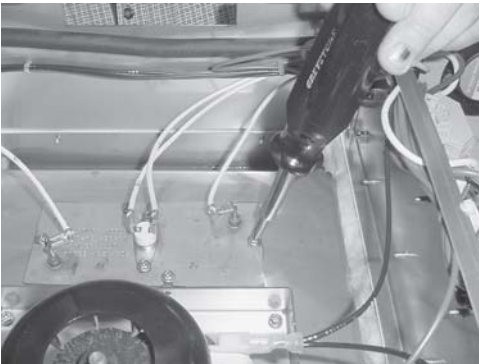

Figure 3-31
3. Using a Phillip's head screwdriver, remove the 4 screws securing the heater and remove heater. Figure 3-31.